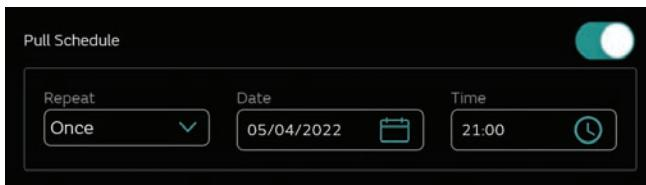

Figure 16. Scheduling for Pull
2. Tap Intervals to select the frequency, Once, Daily, Weekly, or Monthly (Figure 16).